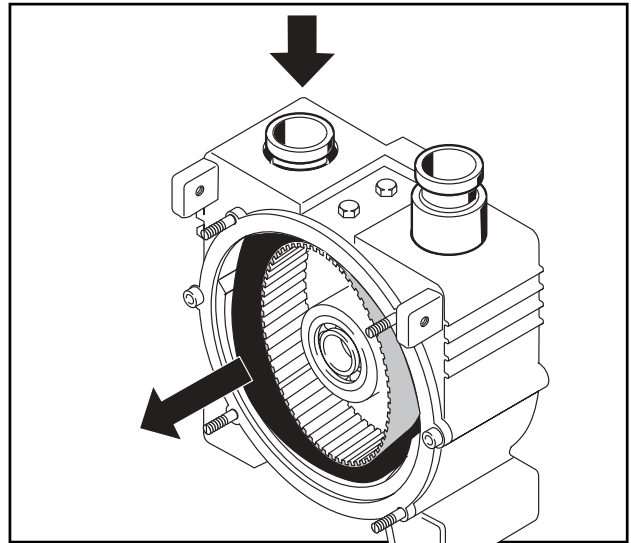
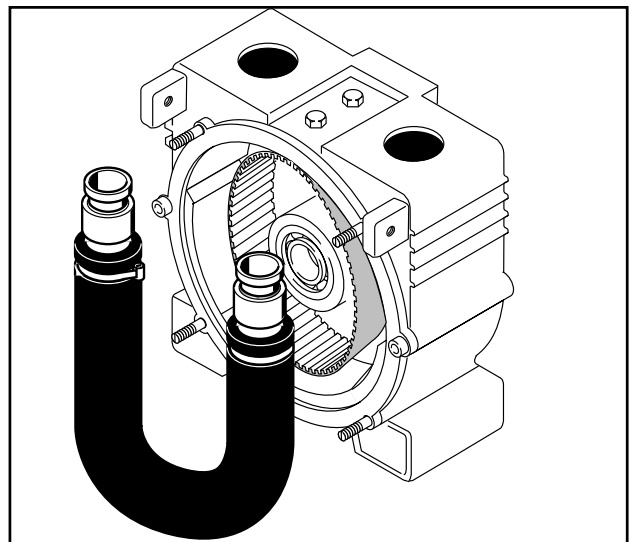

Fig. 11
Fig. 12
8. Pull the pumping hose on the pressure side back into the housing, then pull it back on the suction side and take it out (Fig. 11 and Fig. 12).